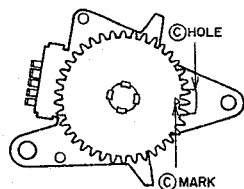

Fig. 3-14
- 1) Set the MODE SELECT SWITCH's gear, so that the Ⓒ mark is in the center of the Ⓒ hole as shown in Fig. 3-14.